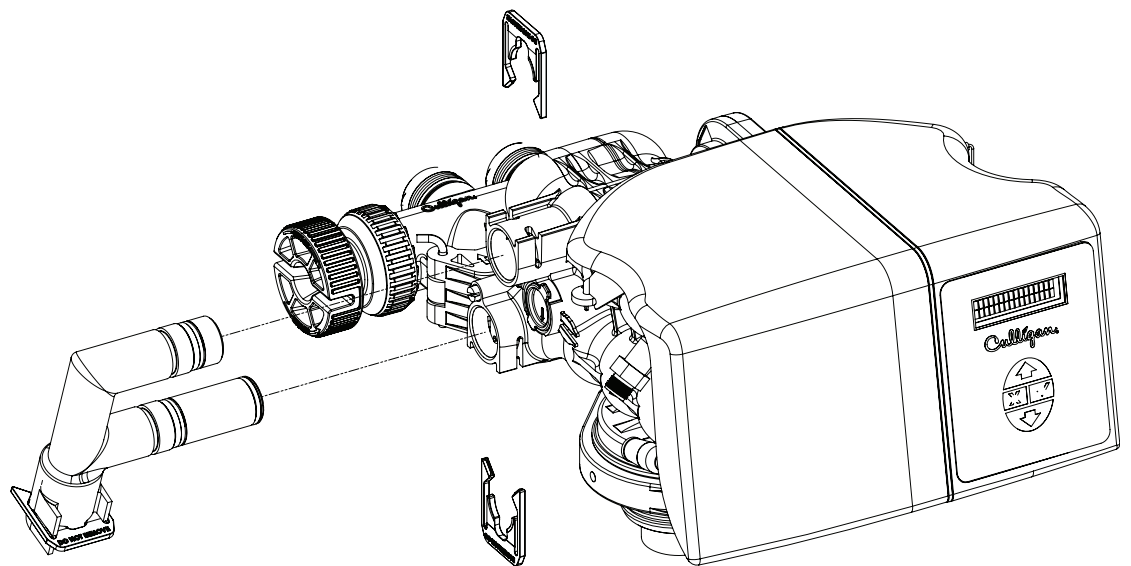

Figure 6. Progressive Flow U-Tube adapter.
Refer to Figure 6 and the instructions below when changing the eductor nozzle and throat.
2. Insert the Progressive Flow U-Tube Adapter into the control valve. See Figure 6.